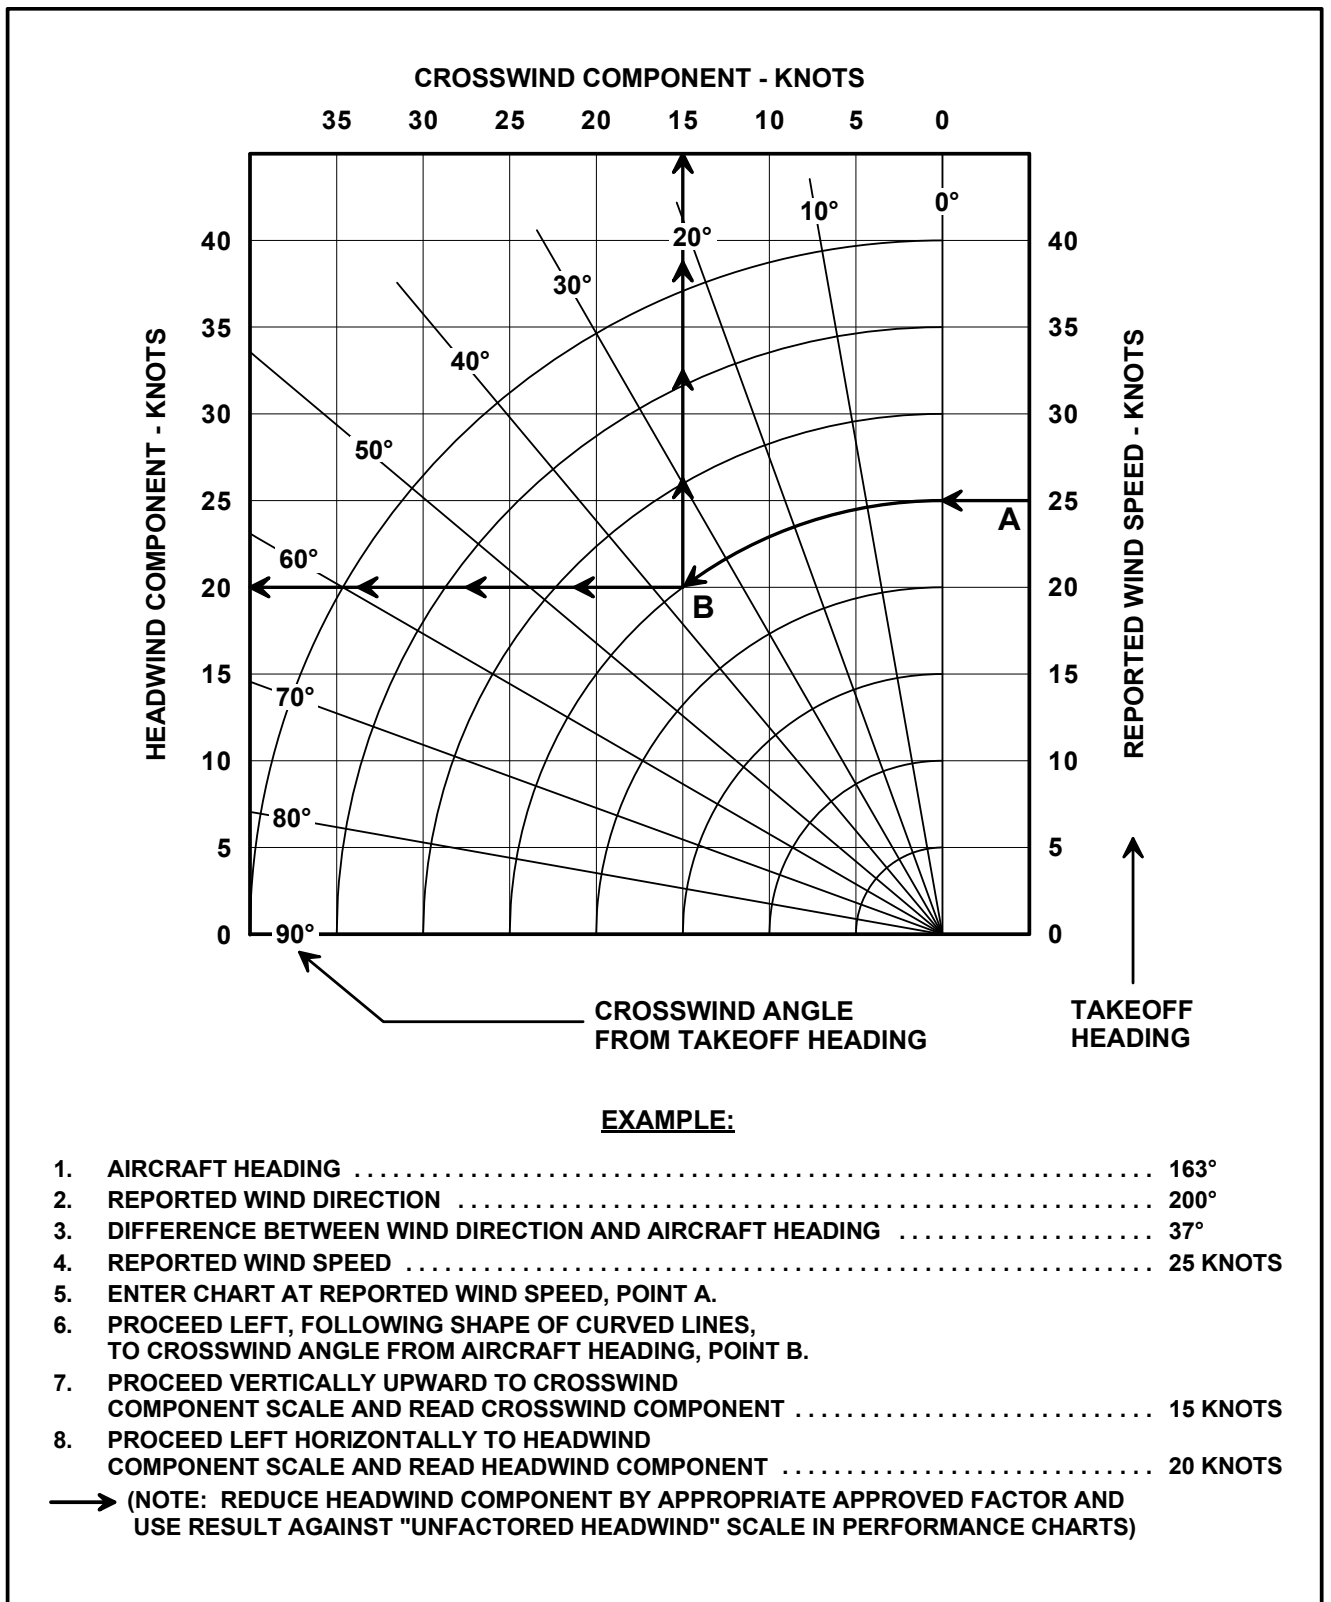

Figure 4-12. Crosswind/Headwind Component Chart
- a. Use Crosswind/Headwind Component Chart (Figure 4-12): Enter at 25 knots reported wind scale, follow 25 knot arc until 37°. Headwind component is 20 knots. (Factored headwind is 10 knots.)